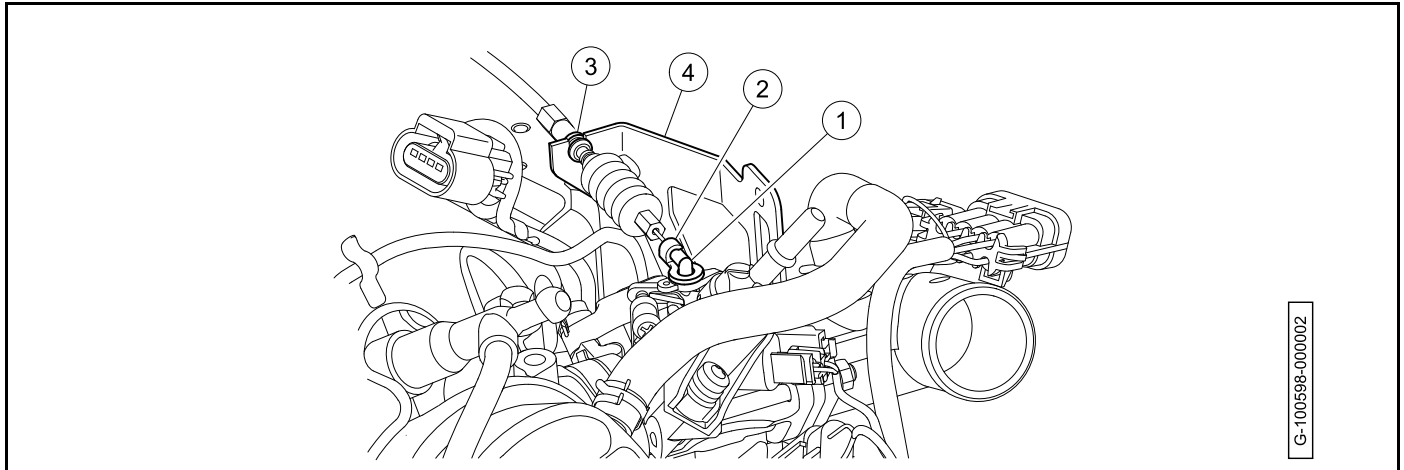

Figure 21-1 Governor Cable Removal - Throttle Body
- 3.2. Remove the governor cable fitting (1) from the linkage retainer (2) (**Figure 21-1, Page 21-3**).